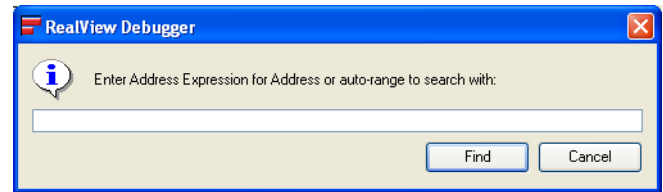

Figure 9-9 Finding an address expression match
1. Select **Find** → **Find Address Expression...** from the Analysis window menu to open the Prompt dialog box. Figure 9-9 shows an example: